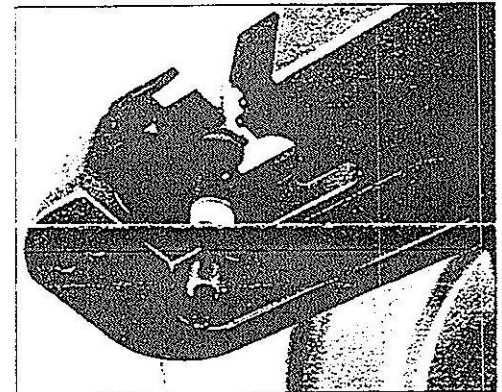

Figure 3
5. Slide the grommet into the backshell. Place the connector in the backshell crimp tool with the hex side of the die against the grommet flange. Rotate the connector until a slot in the backshell faces toward the moving die. Be sure the grommet is fully inserted and that its flange is tight against the end of the die, then complete the crimp (Figure 3).